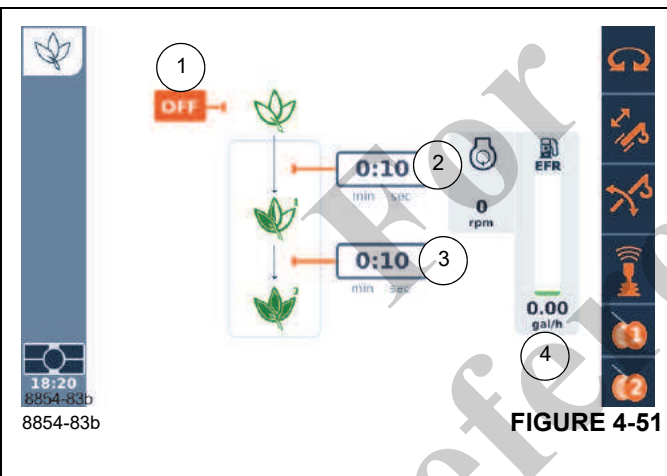

FIGURE 4-51
You can set a value between 3 and 30 seconds for the front and roof window wiper interval (3), (Figure 4-51).
To open: Select symbol (4), (Figure 4-44) and confirm. To set or adjust economy mode refer to Figure 4-51.
The OFF Button (1), (Figure 4-51) enables/disables ECO mode. When turned OFF there is no RPM reduction. The engine RPM follows the Increment/Decrement Switch and throttle pedal.
Item (2),(Figure 4-51) is the time delay the engine will derate to a preset idle speed from the operator selected RPM level. Activating any joystick will return the crane to the operator selected idle speed.
Item (3),(Figure 4-51) is the time after the ECO mode has been activated due to inactivity when the engine RPM will be reduced to an even lower idle speed. Also, the hydraulic oil